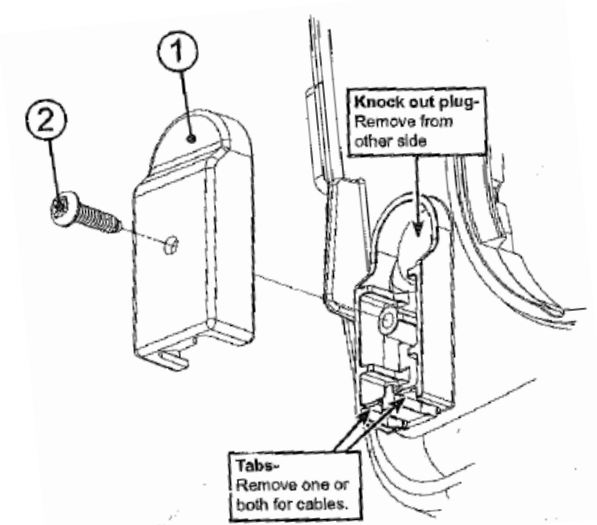

Figure 6.
6. Install strain relief cover to secure cable (making sure there is adequate slack on either side of the strain relief) and secure in place using the screw provided. See Figure 6.